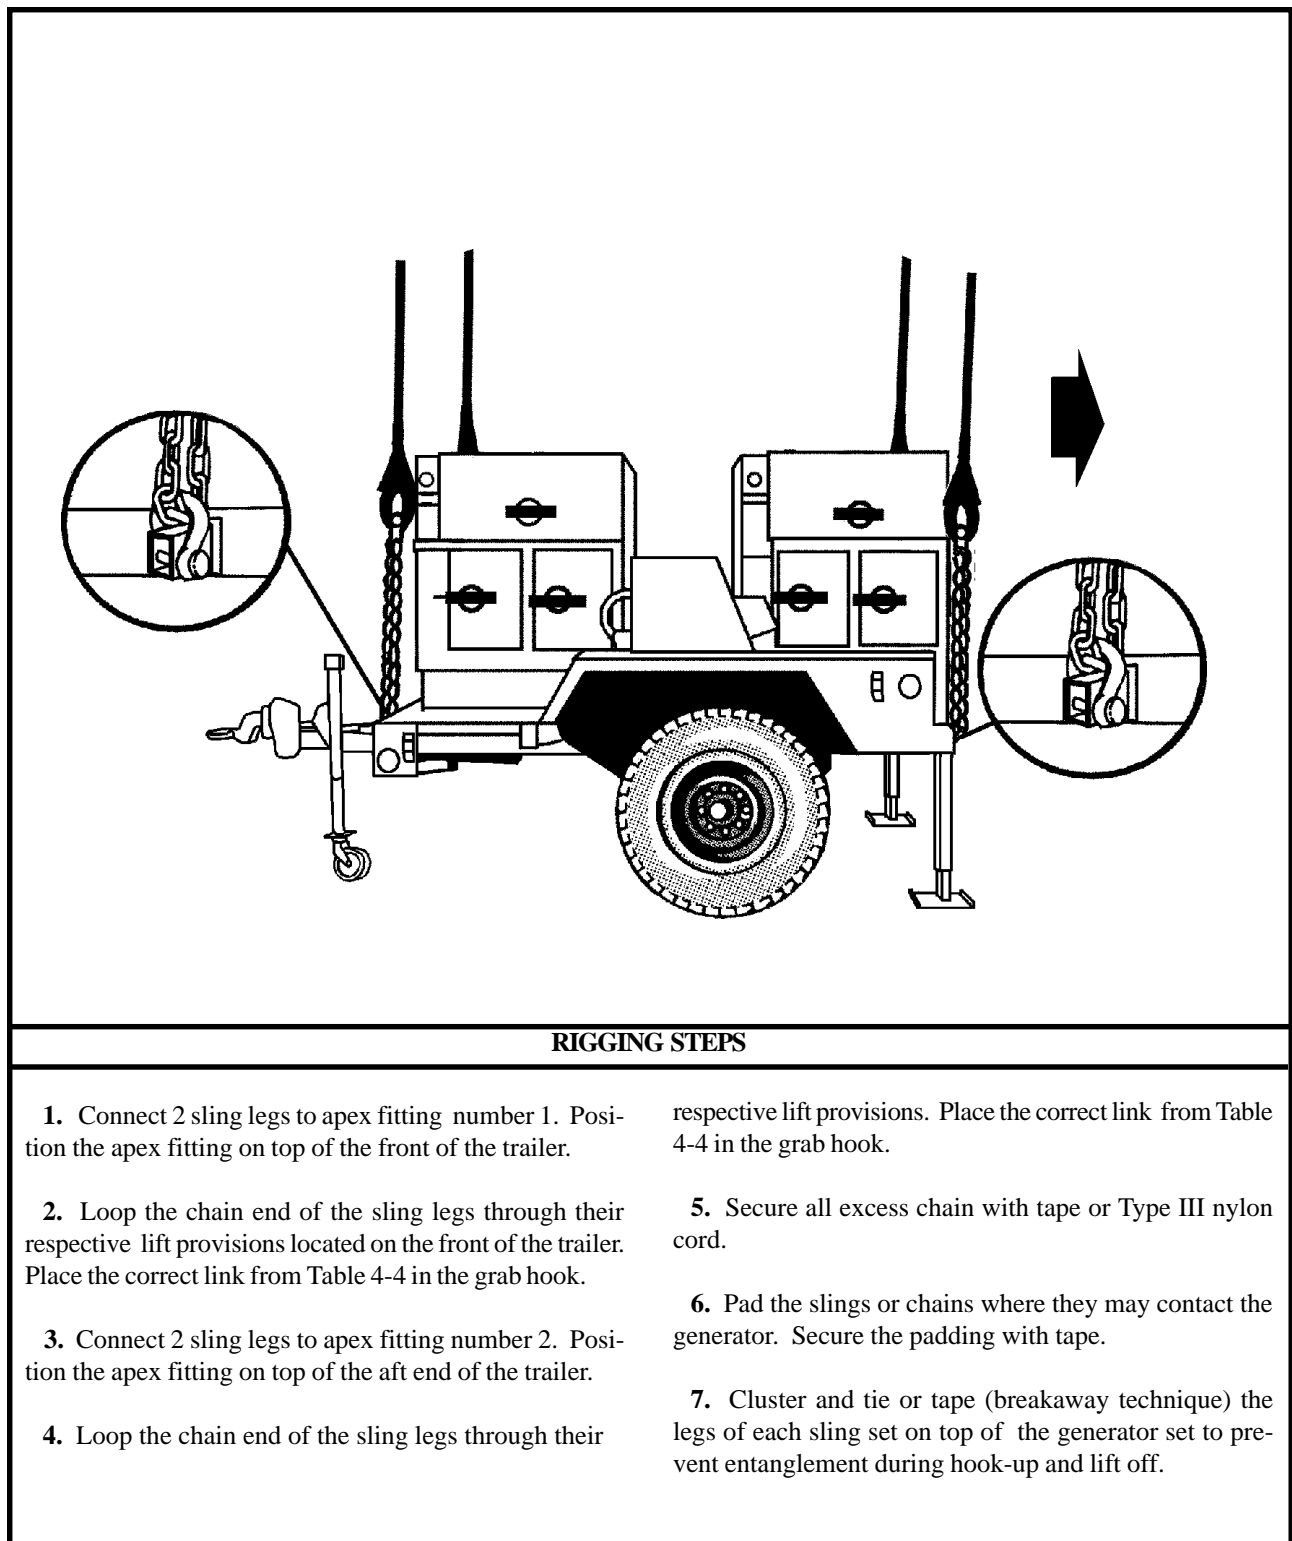

Figure 4-4. High Mobility Trailer with AN/MJQ-35A Power Unit
(2) **Rigging.** Rig the load according to the steps in Figure 4-4.
(4) **Derigging.** Derigging is the reverse of the preparation and rigging procedures in steps d (1) and d (2).